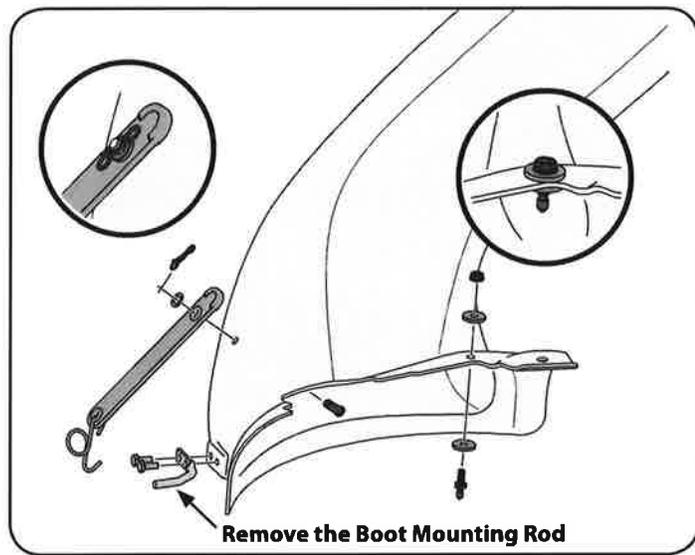

Figure 21
1. Install the rubber chute strap, from hardware pack 689-00318A, onto the chute elbow using the clevis pin (711-05063), washer (736-0204) and Bow-tie cotter pin (714-04040) from hardware pack 689-00318A. See Figure 21. Secure the end of the strap utilizing the hole furthest from the end, insert the torsion spring hook (732-04510A) into the other end.
**Note:** On decks with front deck wheels, the boot mount rod must be removed in order to install this discharge chute elbow onto the tractor. See Figure 21.